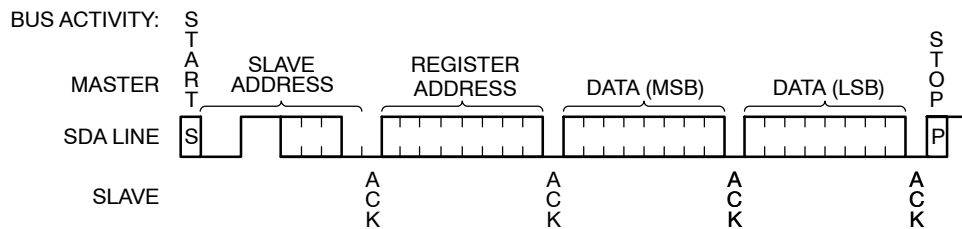

Figure 12. Temperature Sensor Register Write
To write data to a TS register the Master creates a START condition on the bus, and then sends out the appropriate Slave address (with the R/W bit set to '0'), followed by an address byte and two data bytes. The matching Slave will acknowledge the Slave address, TS register address and the TS register data (Figure 12). The Master then ends the session by creating a STOP condition on the bus. The STOP completes the TS register update. Note that all registers in the TS are 'volatile' meaning any data contained in them is lost when power is removed from the chip.
11. Writing a '1' to this bit clears an event condition in Interrupt mode, but has no effect in comparator mode. When read, this bit always returns 0. Once the measured temperature exceeds the critical limit, setting this bit has no effect (see Figure 12).